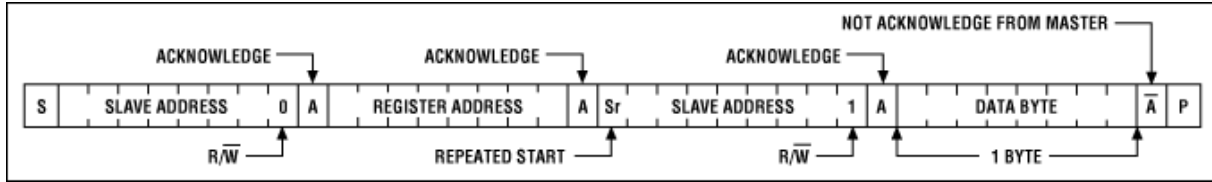

Figure 1. Single byte read.
We cannot directly read all of ALSDATA[13:0] over I²C, so we must first read the contents of register 0x04, then read the contents of register 0x05, and concatenate the data in at least a 16-bit register. However, we must take care as to how we read this data. It is possible to simply do two single reads terminated by a STOP (P) condition, as shown in **Figure 1**.